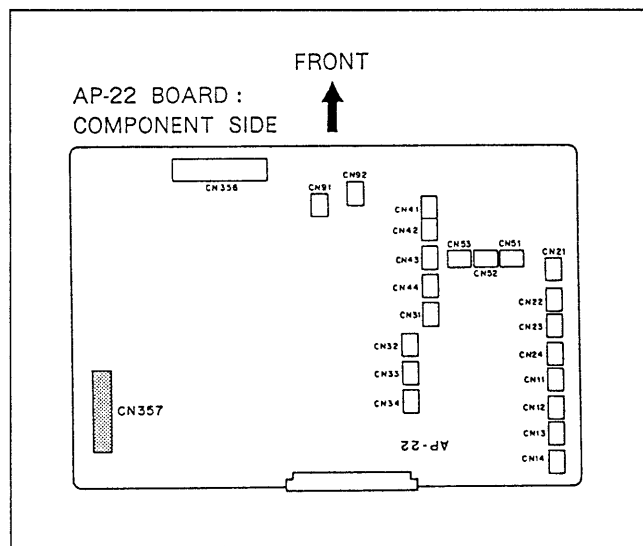

Fig. 6-15-1. Erase Head Harness Removal
1. Open the power supply panel and remove the connector CN357 from the erase head harness connected to the AP-22 board as shown in Fig. 6-15-1.